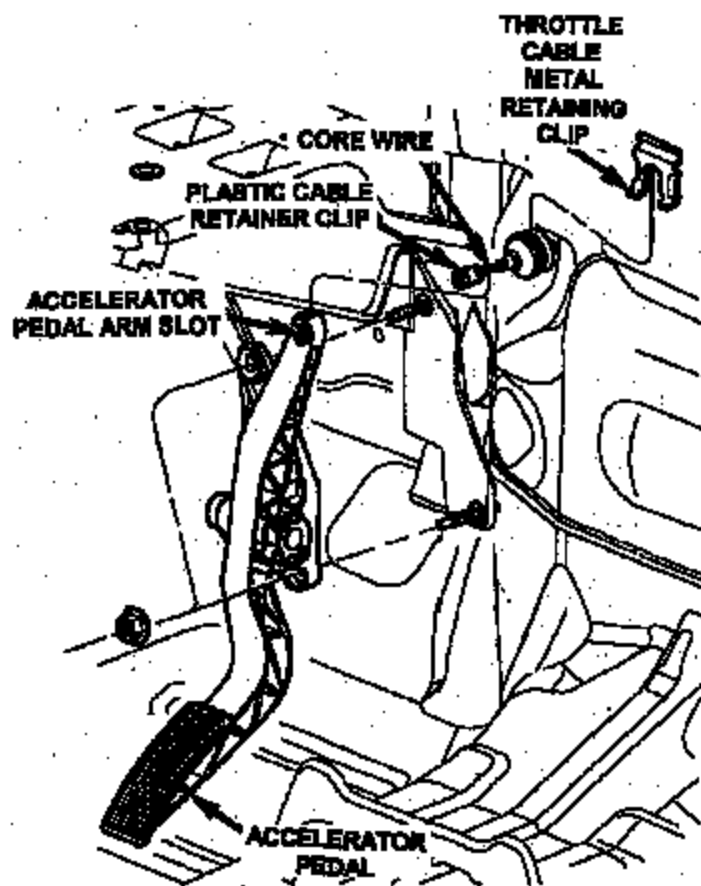

Figure 1
1. From inside the vehicle, hold up the accelerator pedal and remove the plastic cable retainer clip (Figure 1) from the accelerator pedal arm.
2. Remove the throttle cable core wire from the upper end of the accelerator pedal arm slot (Figure 1).
3. From inside the vehicle, remove the throttle cable metal retaining clip at the dash panel grommet (Figure 1).
16. From inside the vehicle, install the metal throttle cable retaining clip (Figure 1).
17. From inside the vehicle, slide the throttle cable core wire into the slot at the top of the pedal (Figure 1).
18. Push the plastic cable retainer clip into the accelerator pedal arm opening until it snaps in place (Figure 1).